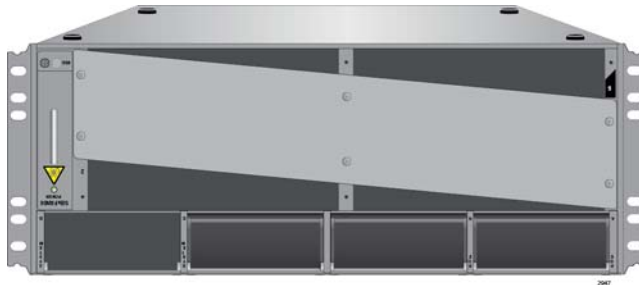

Figure 47. Turning the Chassis Upside Down
1. Place the unit upside down on a level, secure surface, as shown in Figure 47.